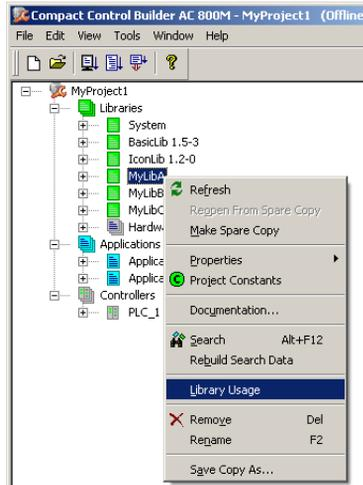

Figure 38. Library Usage
1. Right-click the library and select Library Usage as in Figure 38. The Library Usage dialog box is displayed with list of applications where the library is connected as in Figure 39.